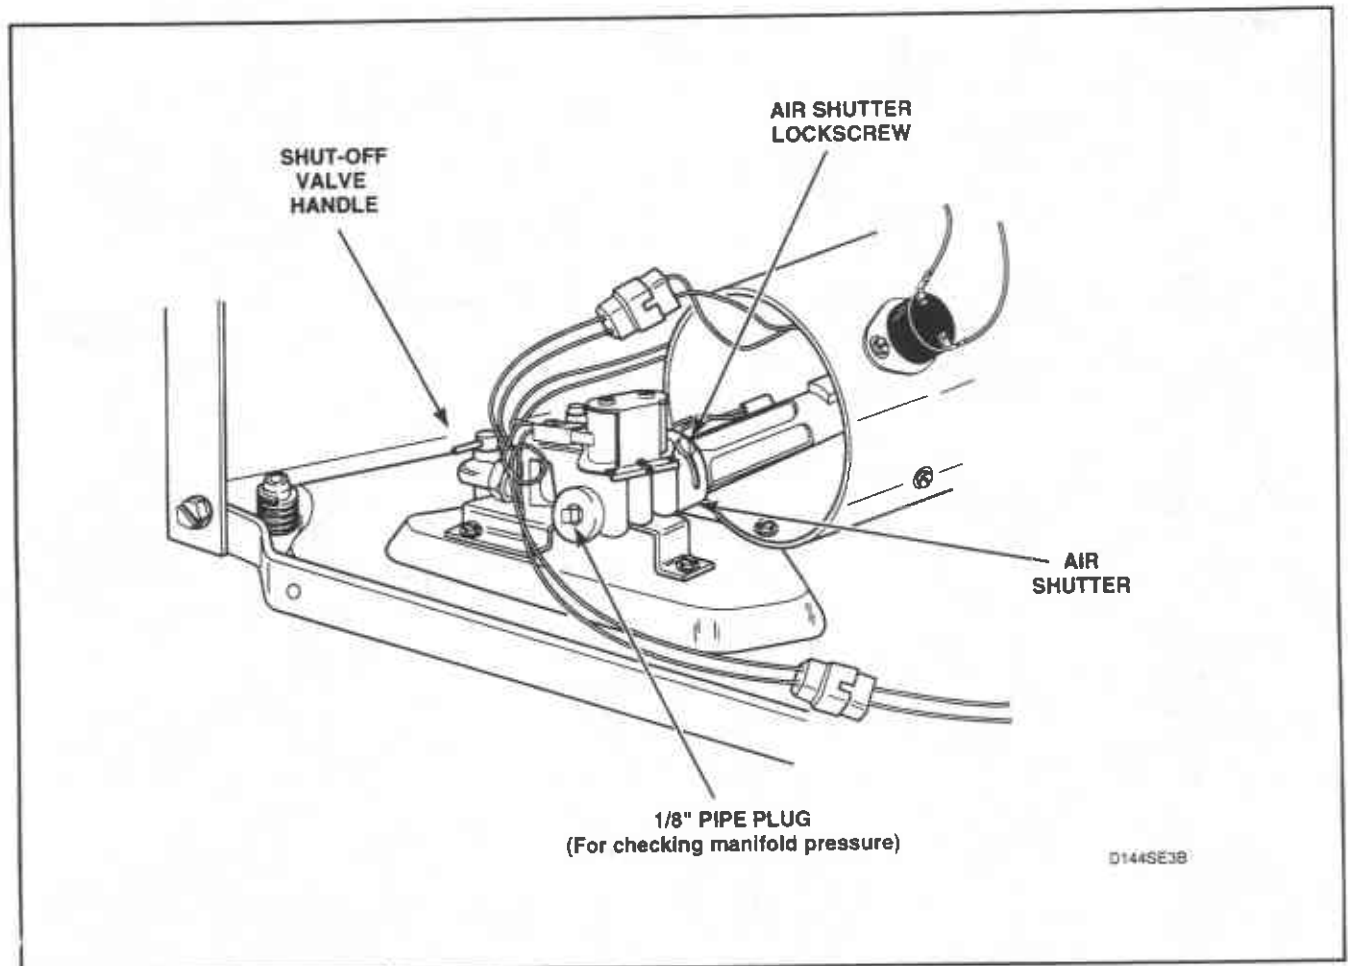

Figure 48
- e. Allow the dryer to operate for approximately five minutes, then loosen the air shutter lock screw, *Figure 48*.
- g. After proper flame is obtained, tighten air shutter lock screw securely, *Figure 48*.
- Close gas shut-off valve, *Figure 48*.